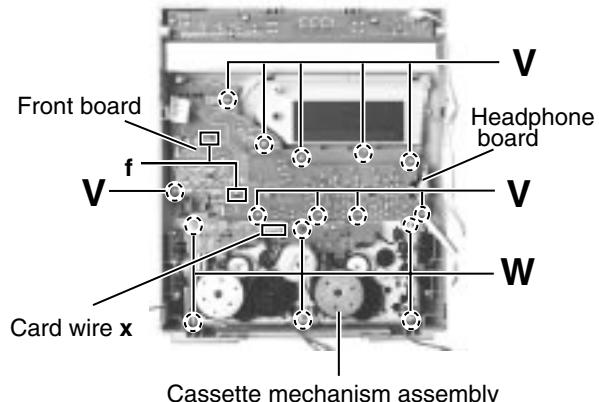

Fig.24
(See Fig.24)
■Removing the front board (See Fig.24)
■Removing the cassette mechanism assembly (See Fig.24)